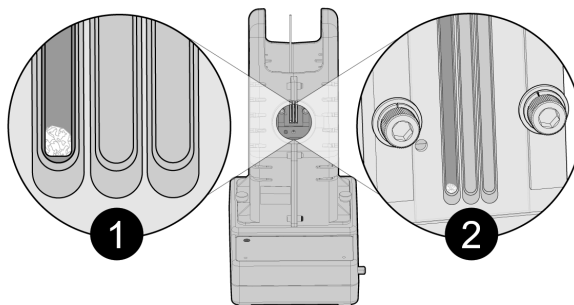

Figure 2. Melting Point Apparatus with sample in capillary tube
6. Insert the closed end of the capillary tube into an open chamber in the MPA as shown in Figure 2. A magnified image of the sample will be visible on your screen if you are using a USB Camera (①) or in the eyepiece (②).